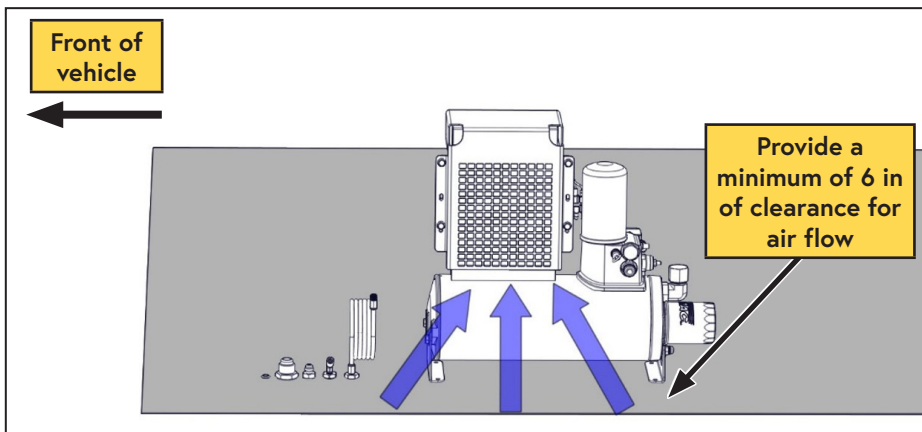

Figure 18 — WHASP ventilation
*A minimum of 6 in of clearance is recommended around the radiator (intake) side of the WHASP Tank to allow fresh, cool air to circulate into the cooler and fan (Figure 18).*